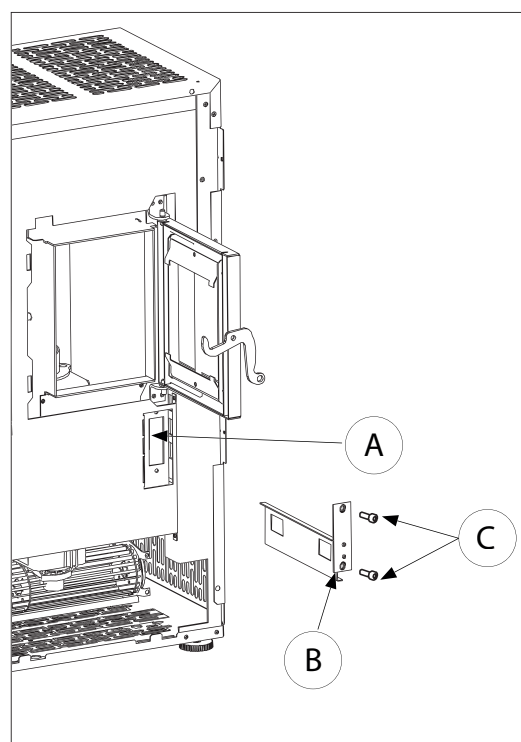

Fig. 6.1.2
- for easy access to the smoke compartment (A), simply remove the lid (B) by adjusting the two screws (C) (Fig. 6.1.2).